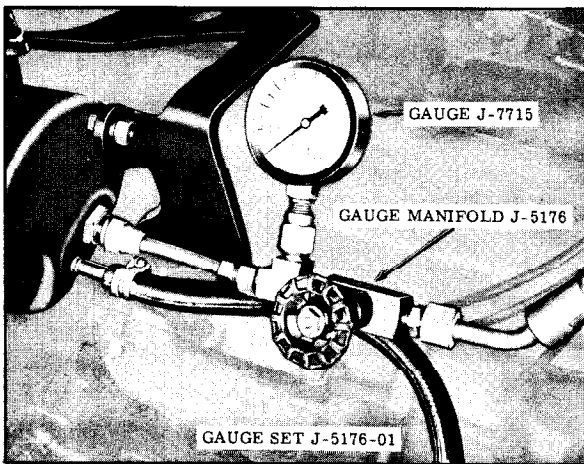

Fig. 4-82 Oil Pressure Gauge
<p style="text-align: center;">CAUSE</p> <ol style="list-style-type: none"> 1. Loose pump belt. (P.S.) 2. Low oil level in reservoir. (P.S.) 3. Lack of lubrication in ball joints. 4. Tires not properly inflated. 5. Insufficient oil pressure. (P.S.) 	<p style="text-align: center;">CORRECTION</p> <ol style="list-style-type: none"> 1. Adjust to specification. 2. Fill to proper level. If excessively low, check all lines and joints for evidence of external leakage. 3. Add lubricant. 4. Inflate to recommended pressure. 5. If all of the above checks do not reveal the cause of hard steering, make the following tests of oil pressure. <ol style="list-style-type: none"> a. Disconnect the pressure line at pump, then install gauge set J-5176-01. (Fig. 4-82) b. With engine at slow idle and gauge valve open, note the oil pressure on the gauge while turning steering wheel from one extreme position to the other. Especially note the maximum pressure which can be built up with the wheel held in either right or left extreme position. <p style="margin-left: 20px;">CAUTION: Do not hold wheel in extreme position for an extended period of time because it will drastically increase the oil temperature and will cause undue wear on the pump.</p>
- c. With oil temperature between 150°F. and 170°F. (measured with a thermometer in the reservoir) oil pressure should not be less than 1,100 p.s.i. for satisfactory power steering operation. (Fig. 4-82)
- (1) First test (step b) pressure low, and second test (step d) pressure normal indicates faulty hoses or steering gear.
- (2) First test (step b) and second test (step d) pressure equally low - indicates faulty oil pump.